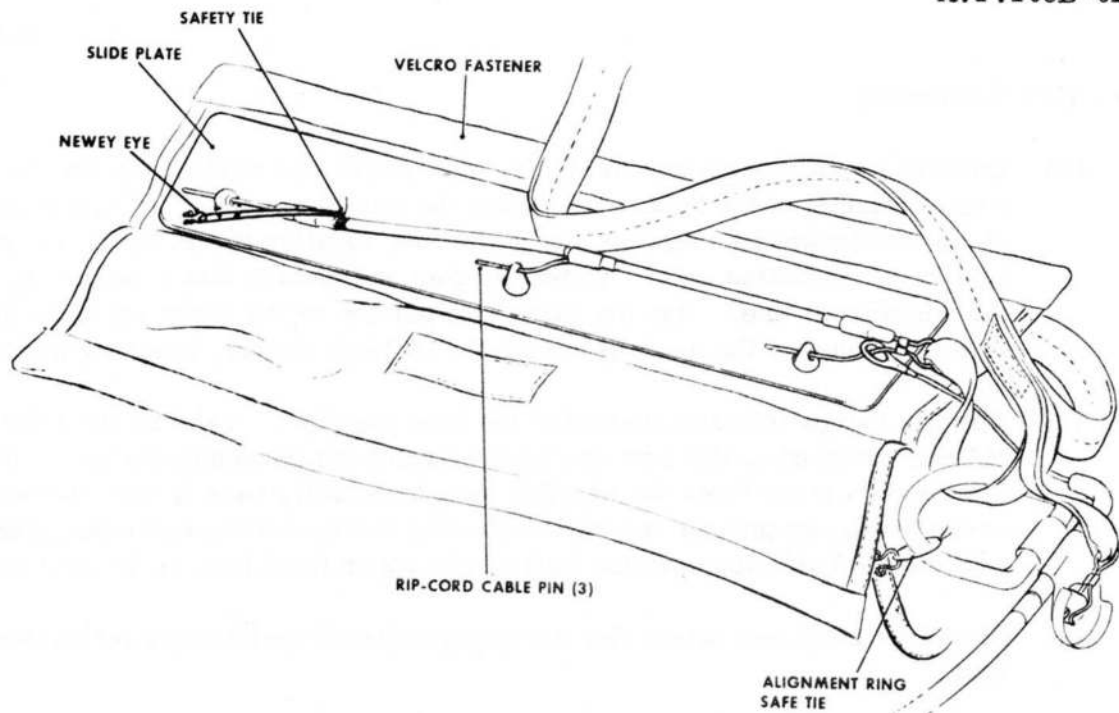

Fig 8 Parachute and alignment ring safe ties (SI/SE 101C incorporated)
- ▶ 10) Carefully open the outer flap of the parachute pack and ensure that the rip pins are correctly positioned through the cones and that the scarlet cotton tie securing the starboard rip pin is unbroken. Route the withdrawal line out through the centre of the outer flap. Replace the flap pressing it down to make the touch-and-close fastener. Ensure that the alignment ring safe-tie is intact. (fig 8). ◀